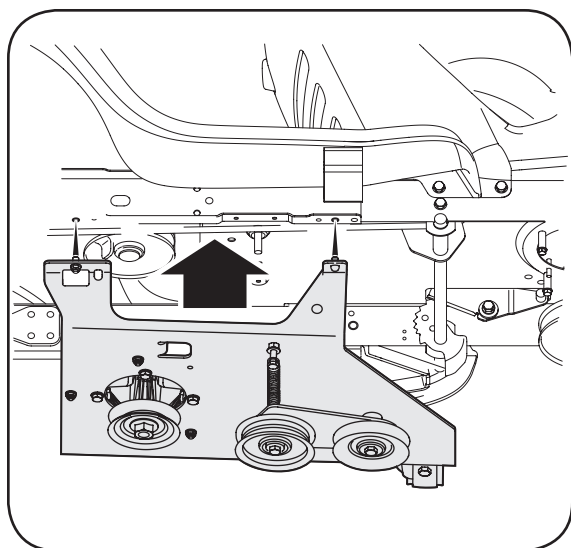

Figure 15
6. Insert the weldpins found on the top side of the rear portion of the undercarriage assembly up through the aligning holes found along the tractor's frame rail. See Figure 15.